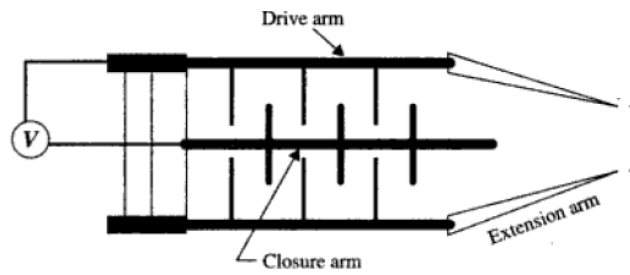

Figure 3B.
- 3B.** Plan a surface micromachining process for the production of comb drive actuator as shown in Fig.3B. **6**